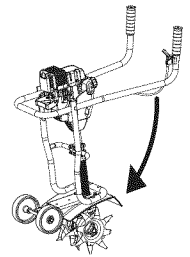

Fig. 19
3. Fold the handlebars down as shown (Fig. 19). Tighten the knobs.